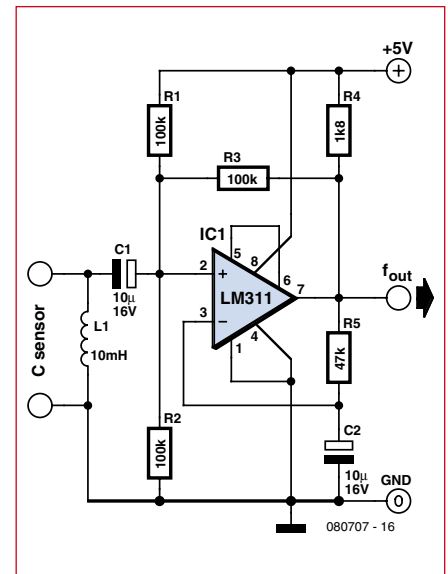

Figure 1. Schematic diagram of the oscillator used for capacitance measurement.
**Figure 1** shows the oscillator circuit used here, which is built around an LM311 comparator. It compares the input voltage with a reference voltage and converts the sinusoidal signal from the resonant loop into a square-wave signal at its output. This signal excites the resonant loop via a feedback resistor. A voltage divider at the non-inverting input of the comparator provides a voltage equal to half the supply voltage. The inverting input is fed by a comparison voltage obtained by integrating the output voltage. As a